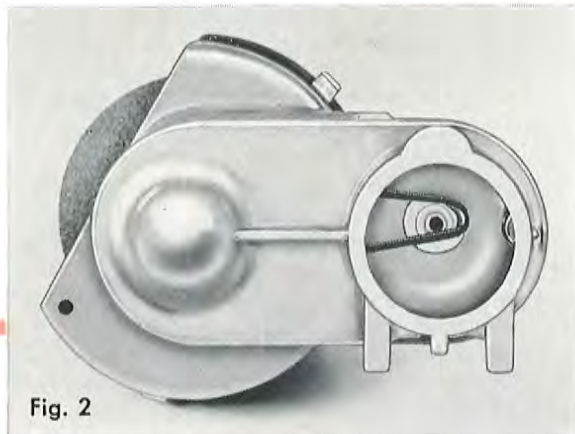

Fig. 2
STEP 2: Turn the Belt Lifter lever to the "OFF" position thus extending the belt (figure 2). The unit is now ready for attachment to the Motor Unit.